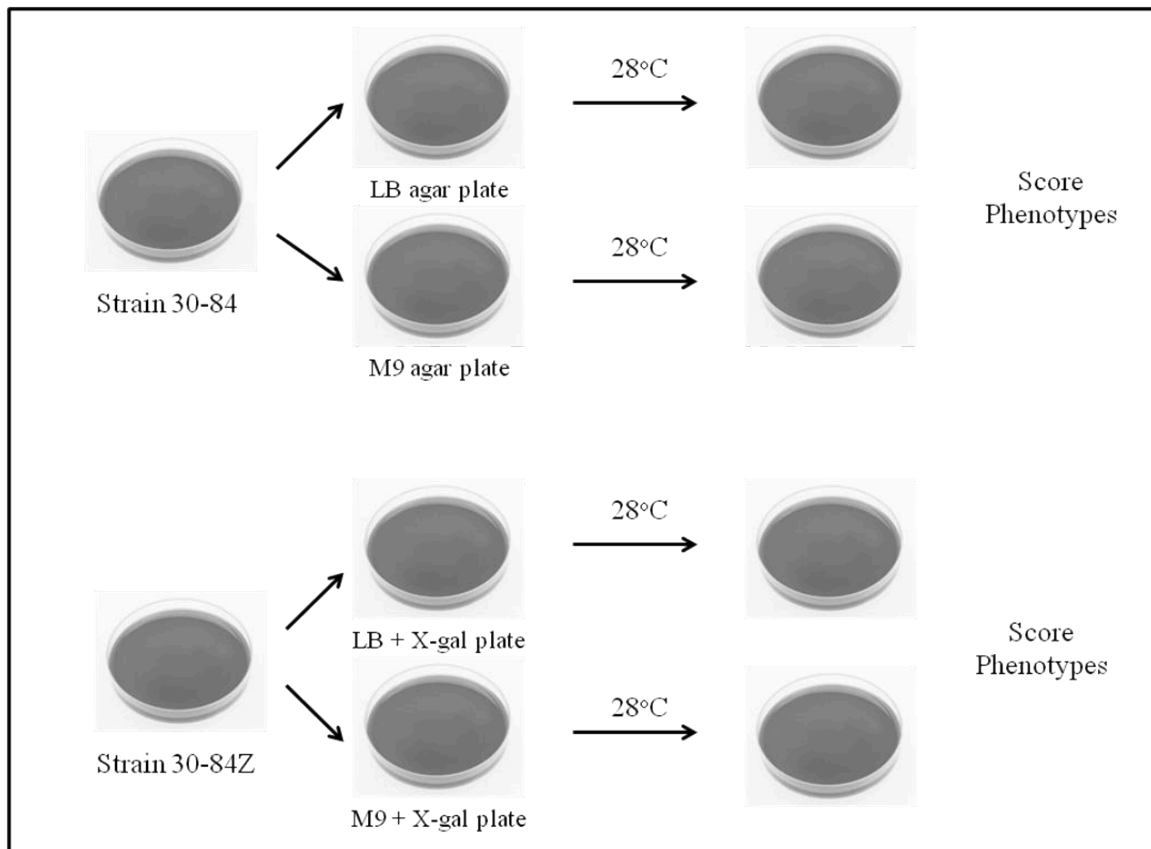

Fig. 2.1 Effect of medium type on the soil-borne bacterium *P. chlororaphis* 30-84 and its derivative 30-84Z.
A. Effect of medium type (Fig 2.1)
1. Streak the cultures of *P. chlororaphis* 30-84 onto one (1) LB agar plate and one (1) M9 agar plate. Do the same for the culture of 30-84Z but use plates with X-gal.